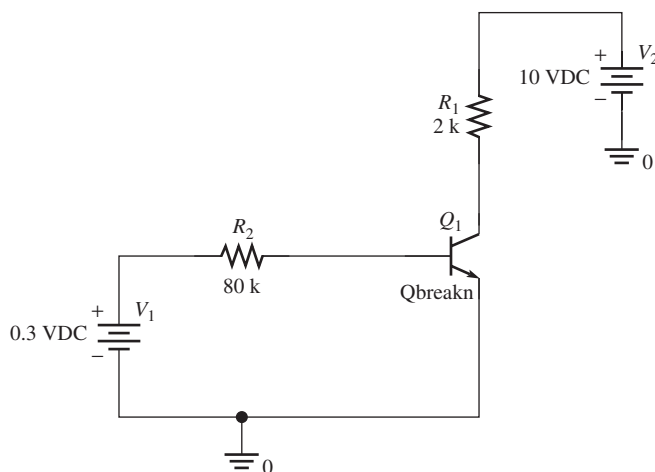

FIGURE 8.95 Placing the transistor
- Place the transistor and set up the PSpice circuit as shown in Figure 8.95.